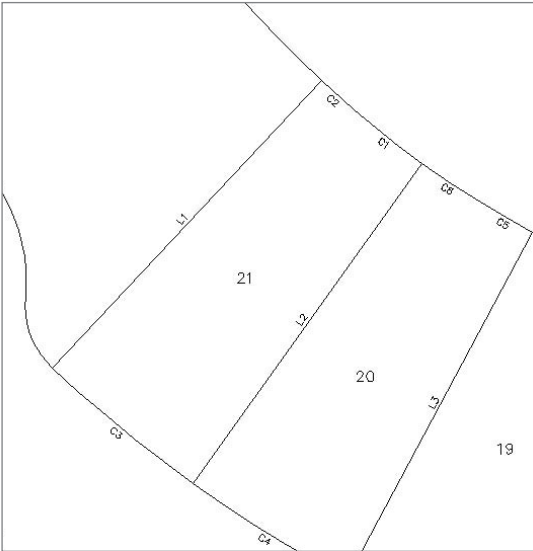

Figure A.35
- 5. Zoom in on lot 21 and note that all of the segment labels have converted to tags, as shown in Figure A.35.